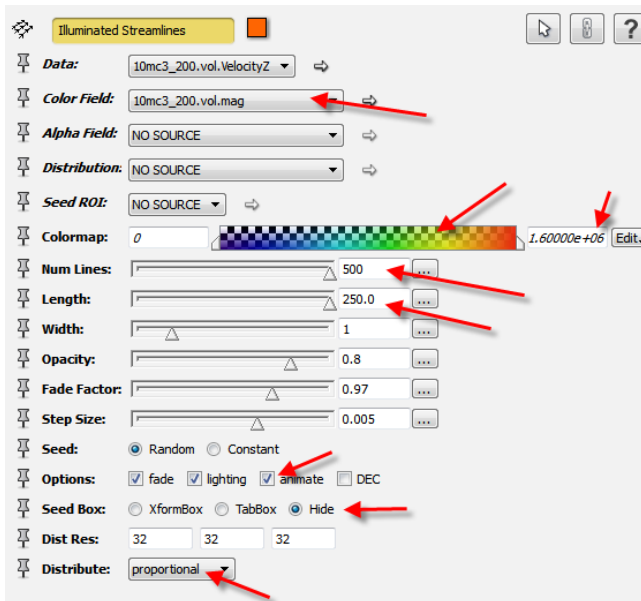

Figure 14.19: Modified parameters for *Illuminated Streamlines* representing the velocity field in the experiment simulation are highlighted by red arrows.
- Right-click on `10mc3_200.vol.VelocityZ` and select *Display > Illuminated Streamlines* and set its parameters as described in Figure 14.19.